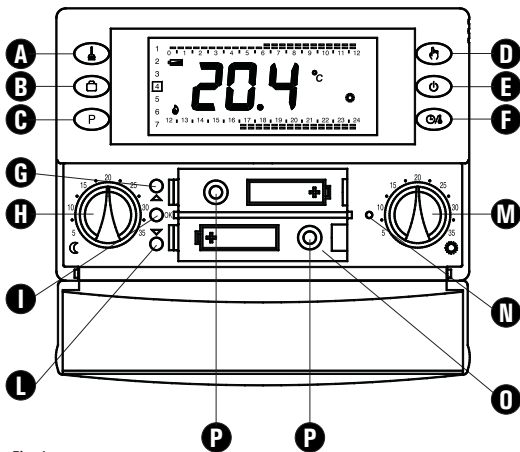

Fig. 1
6. Insert the batteries in the battery compartment (0 in Fig. 1); see paragraph 'HOW TO INSERT/REPLACE THE BATTERIES'.
1. Open the flap of the battery compartment (Fig. 1).
4. Only if the chronostat does not respond correctly carry out a reset operation by inserting a pointed object through the hole provided (N in Fig. 1); **DO NOT USE NEEDLES OR TOOLS THAT COULD IRREPARABLY DAMAGE THE CHRONOSTAT.**